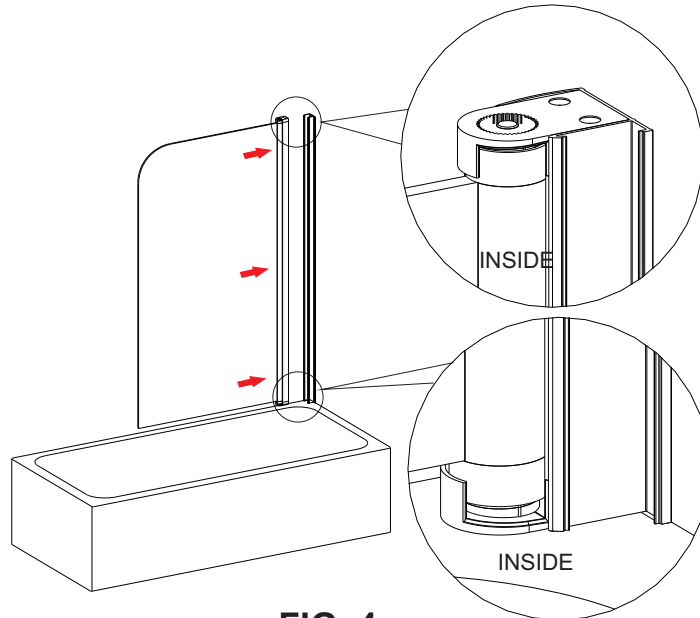

FIG 4
4. Insert the screen into the wall profile. Ensure the bottom edge of the moving panel is parallel to the top surface of the bath. Make sure open side of bracket is to the inside. **Fig4.**